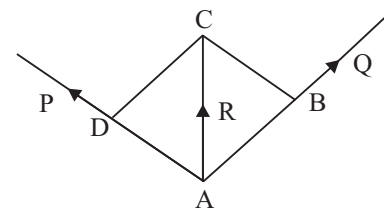

Fig. 5.6
- (xi) Remove the sheet of paper. Join the marked points to show the direction of forces (Fig. 5.6).